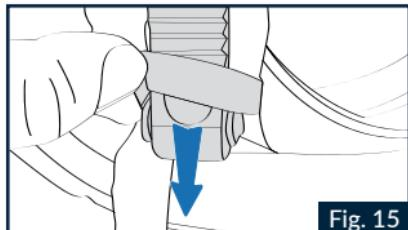

Fig. 15
1.1 Open the chin strap (see specific instructions) and remove the chin strap band from the elastic loop on the cheek pad strap (Fig.15).
6.5 Insert the chin strap band into the elastic loop on the cheek pad strap (Fig. 15).